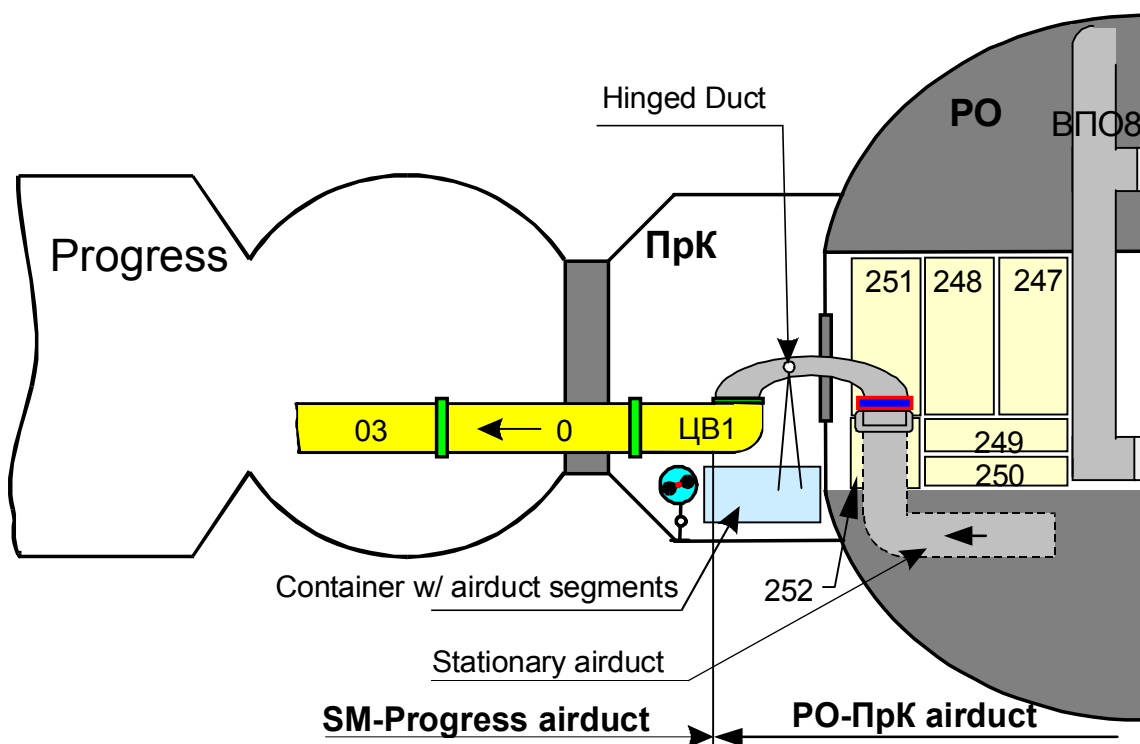

Figure 4.2.4 Air Duct Installation in PO-ПрК area
- Assemble SM-Progress air duct per air duct installation diagram (see Figure 4.2.4)